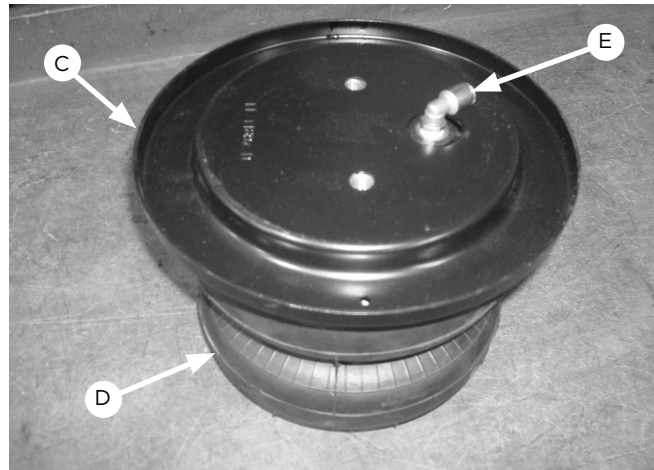

Fig. 4
1. Set the roll plates (C) on top of the air springs (D) and install the fittings (E) finger-tight into the top of the air spring. Then, tighten the fitting an additional 1 1/2 turns (Fig. 4).